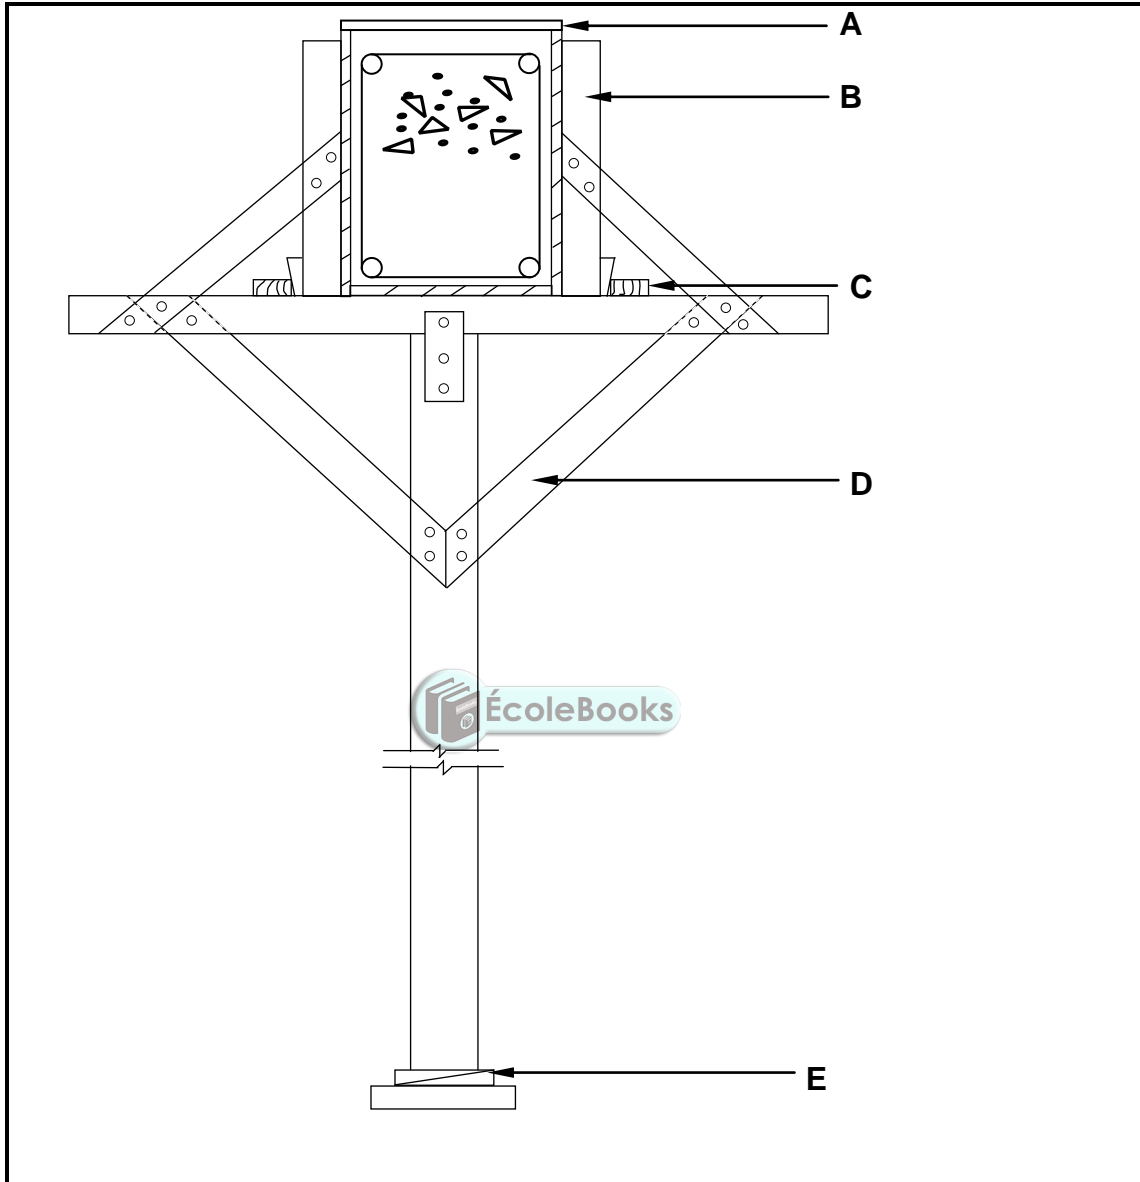

FIGURE 4.5
4.5 FIGURE 4.5 below shows formwork in the construction process. Study the drawing and answer the questions that follow.
4.5.1 Identify the type of formwork in FIGURE 4.5. (1)